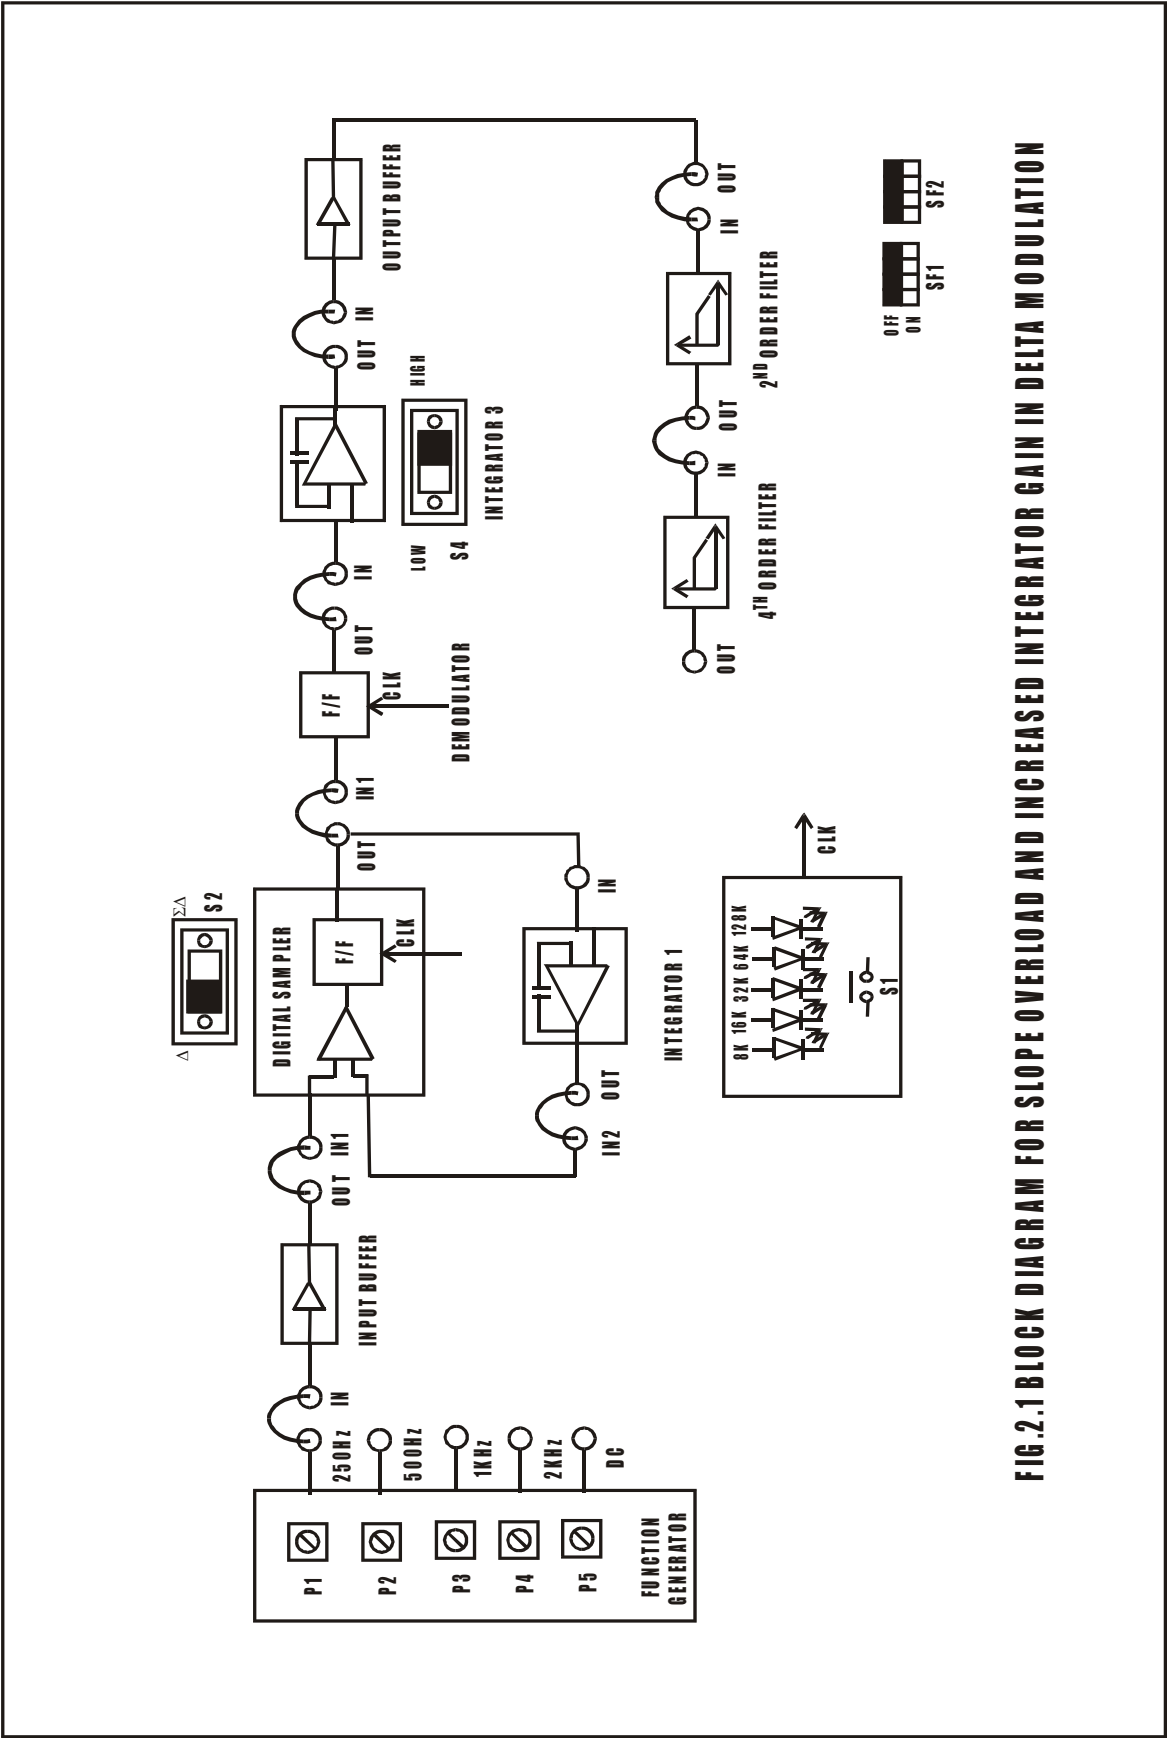

FIG.2.1 BLOCK DIAGRAM FOR SLOPE OVERLOAD AND INCREASED INTEGRATOR GAIN IN DELTA MODULATION
1. Refer to the block diagram (Fig. 2.1) and carry out the following connections.